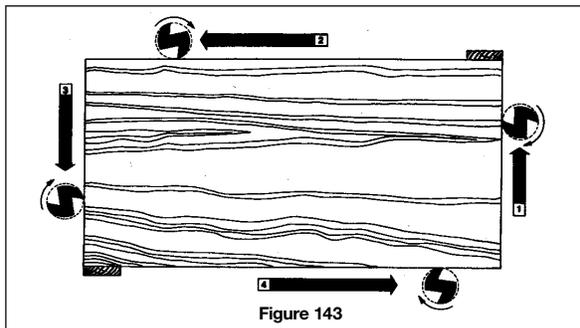

Figure 143
- When routing outside edges, guide the router around the work counterclockwise (Figure 143). Splinters left at corners by routing **across** the grain will be removed by the next pass **with** the grain.